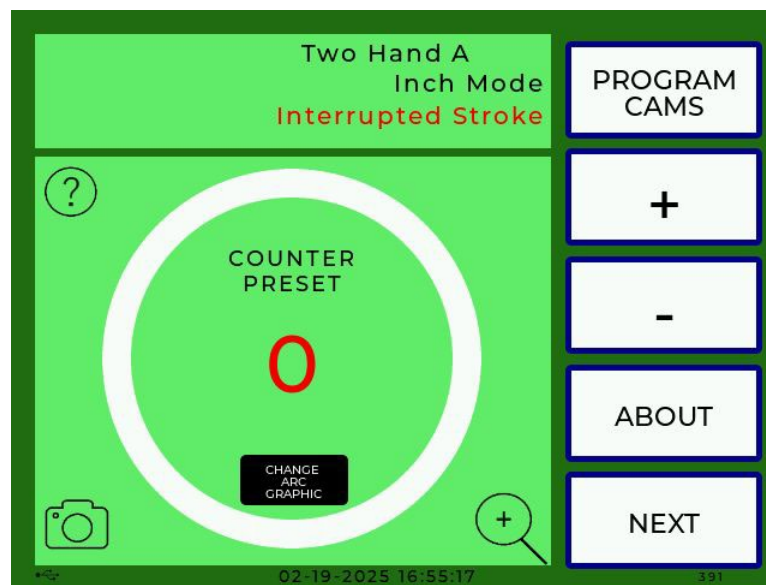

Figure 32. Counter Preset Screen
1. Turn the Settings key switch PROG. The Program screen appears, Figure 32.
2. Press NEXT repeatedly until the counter preset screen appears, Figure 32.
3. Press and hold the – key until the display shows zero (0).